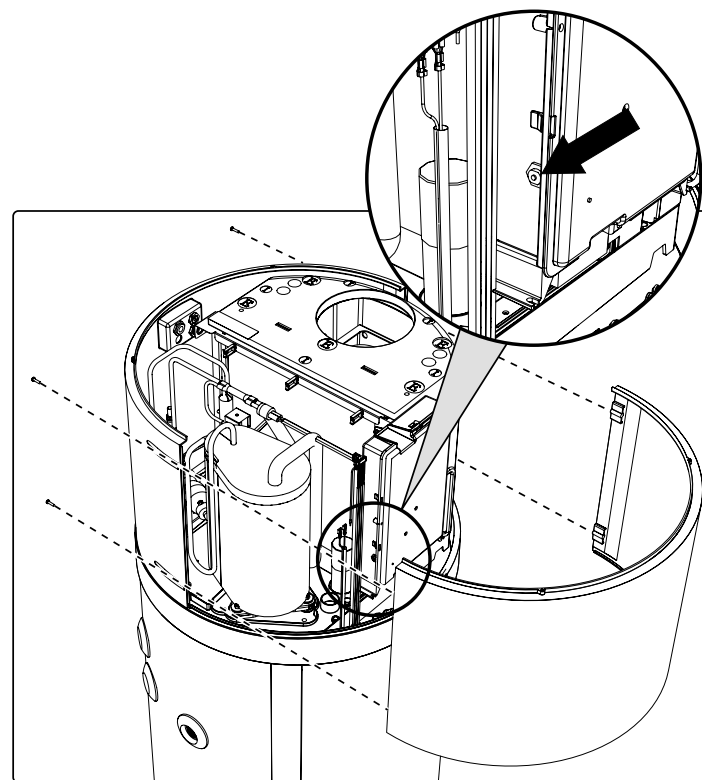

fig. 30- Front panel removal
- Remove the front panel and manually reset the tripped safety thermostat (fig. 30). In case of intervention, the central pin of the thermostat comes out by about 2 mm.